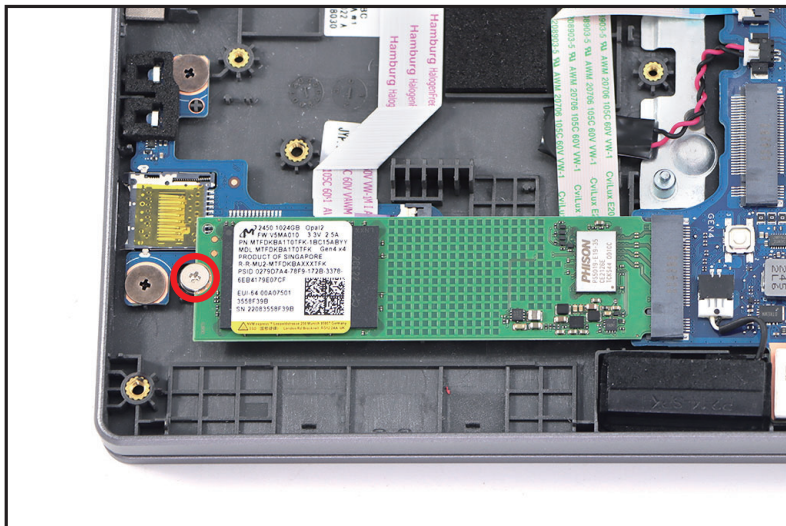

Figure 1-11. SSD Module Removal
1. Remove one (1) screw securing the SSD module in place (Figure 1-11).